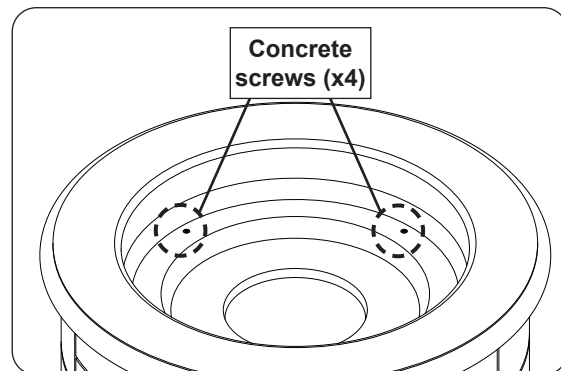

Fig. 29-1 Remove concrete screws
1. Remove the 4 concrete screws from the refractory panel (see Fig. 29-1).